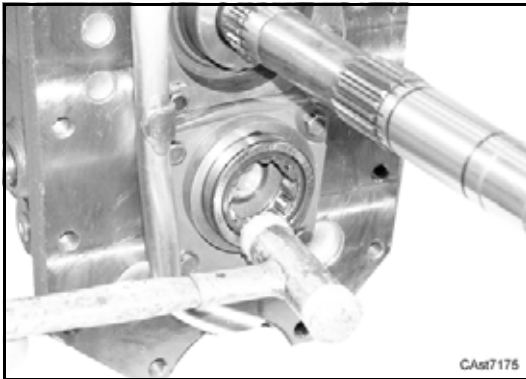

Figure 11
1. Assemble outer race of bearing (23).
2. figure 11.